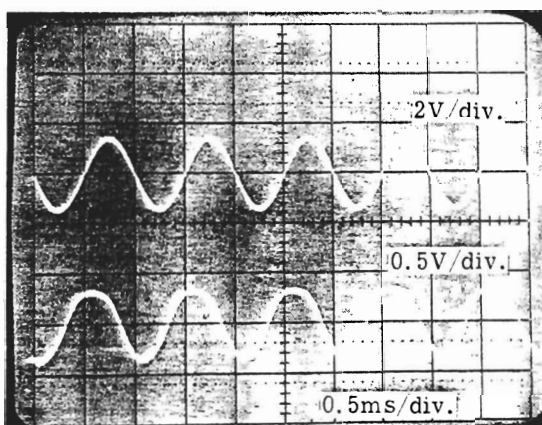

Figure 5-13. Waveforms at "HI" and XA11 PIN 1L
- f. Connect oscilloscope channel A vertical input to "HIGH UNKNOWN" and channel B vertical input to XA11 PIN 1L and chassis ground with the 10:1 probes. Oscilloscope B channel pattern should be 1kHz sine wave, 0.8 volt peak-to-peak and phase relation between A and B channel should be 45° out of phase (refer to Figure 5-13). Internal trigger (channel A) should be used.